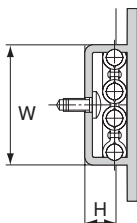

Fig.3
Fig.3 shows the dimensions of grooves for applications where model FBW-R (H) is installed in a groove.